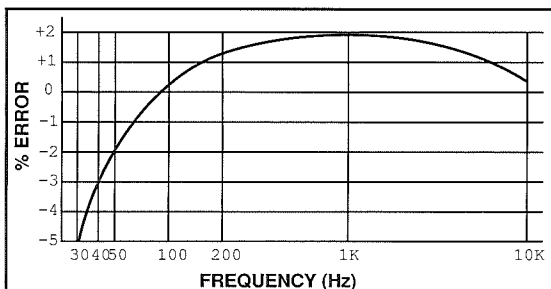

Figure 2. Typical Frequency Response for a Primary Current of 10A Measure on 20 mA Range (10Ω Shunt)
4. Multimeter readings displayed in milliamps (mA) can be read directly as amperes of conductor current. Reading displayed in amperes (A) must be multiplied times 1000 to obtain the amperes of conductor current.
5. Typical performance on 20 mA range with 10A primary current is shown in Figure 2.